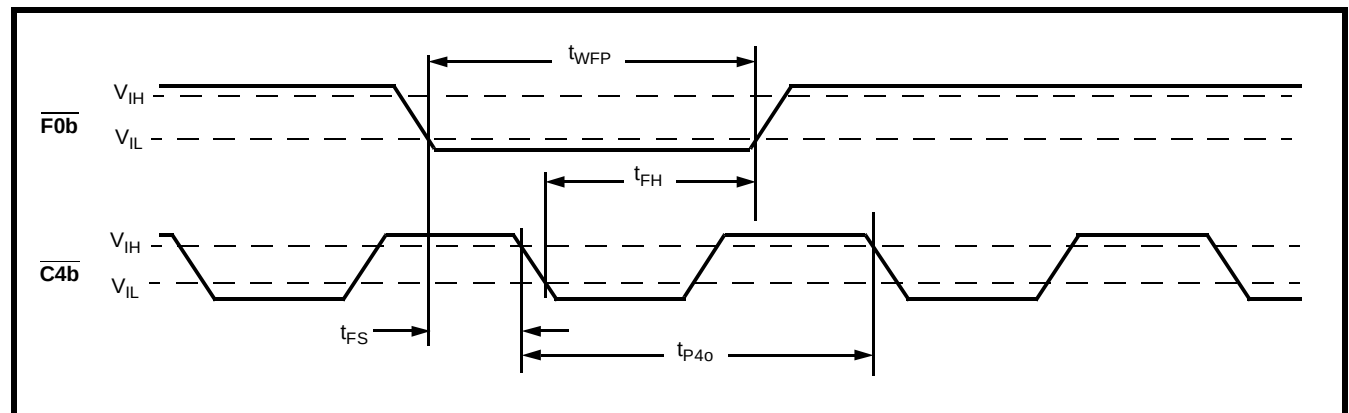

**Figure 18 - External Inputs on  $\overline{C4b}$  and  $\overline{F0b}$  for the DPLL #2**
**AC Electrical Characteristics†** - Voltages are with respect to ground ( $V_{SS}$ ) unless otherwise stated. (Refer to Figure 18)